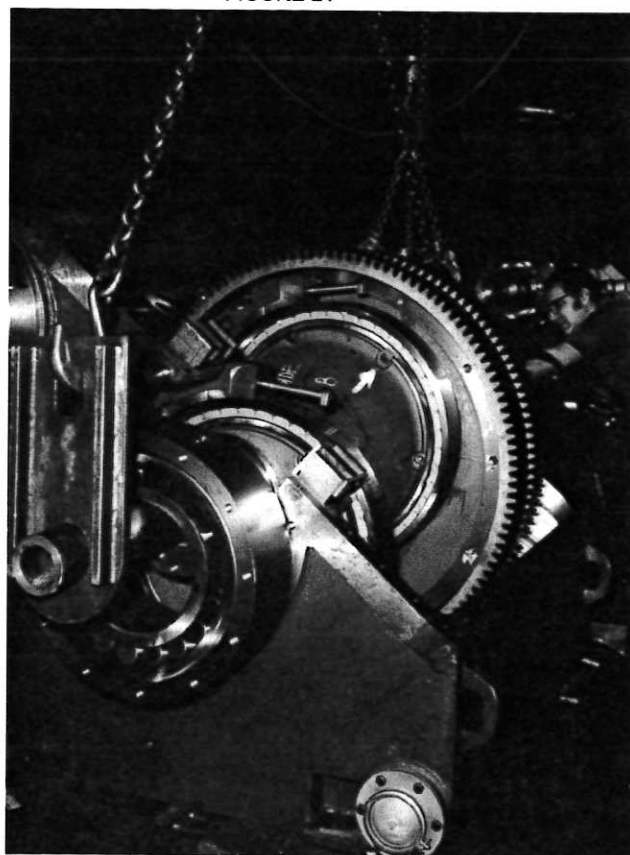

FIGURE 23
6. With eccentric in position as shown in FIGURE 23, page 23, a porta-power jack can now be used to spread the frame for installation of the bearing carrier and bearing assemblies as described under "Main Bearings".